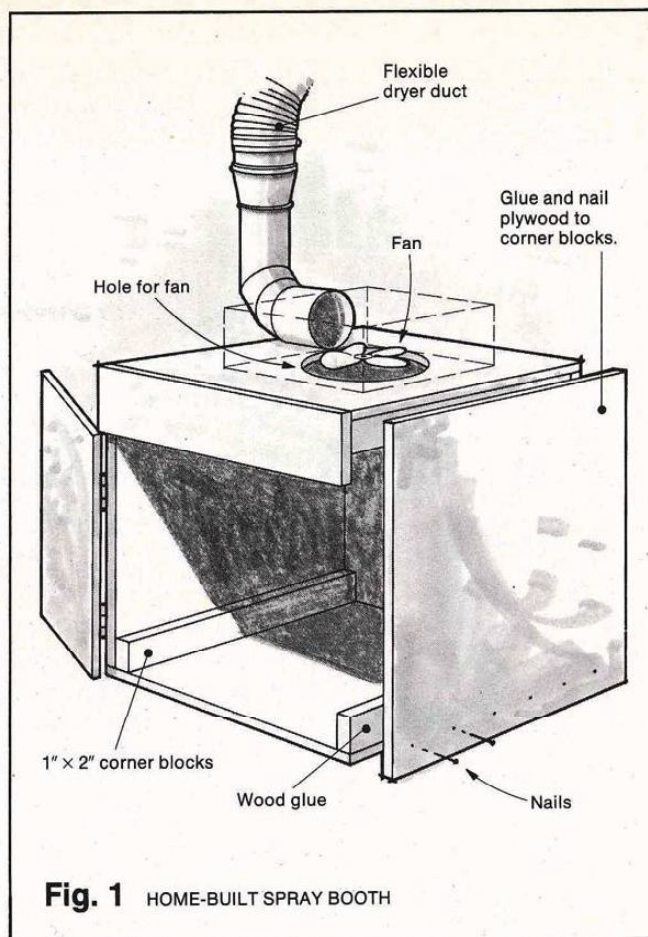

Fig. 1 HOME-BUILT SPRAY BOOTH
**Cutting timber.** Figure 1 is a sketch of the box I built. Dimensions are not given because they're not critical — unless you make a booth too big for your fan to handle. Mine measures 21" high, 18" wide, and 14" deep. It works well, though if I were to do it again I'd make it about 6" deeper. I used  $\frac{1}{2}$ " plywood with a  $\frac{3}{4}$ " floor and a  $\frac{1}{4}$ " door because that's what I had lying around. The booth could easily be made with  $\frac{1}{4}$ " for everything but the floor to reduce costs.
**Fig. 1.** When building the Tojo, Roscoe primed the seams at the wing and stabilizer roots with Pactra Flat Aluminum to check for flaws, which he then filled and sanded. Polished Old Silver will show even the smallest imperfection.
I sanded the puttied areas, then primed them with Pactra Flat Aluminum (F11), Fig. 1, which dries fast and can be sanded in minutes. The Flat Aluminum revealed a few flaws, which I sanded out with worn No. 600 wet-or-dry paper. Unlike metallizing finishes, no special sealing is necessary to prepare puttied areas for painting with Old Silver.